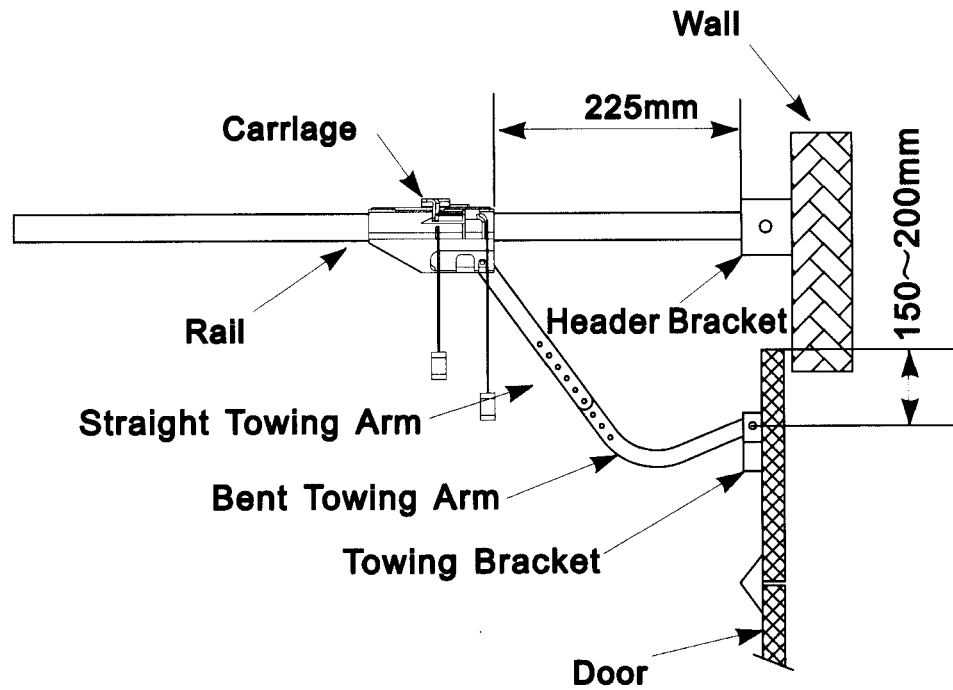
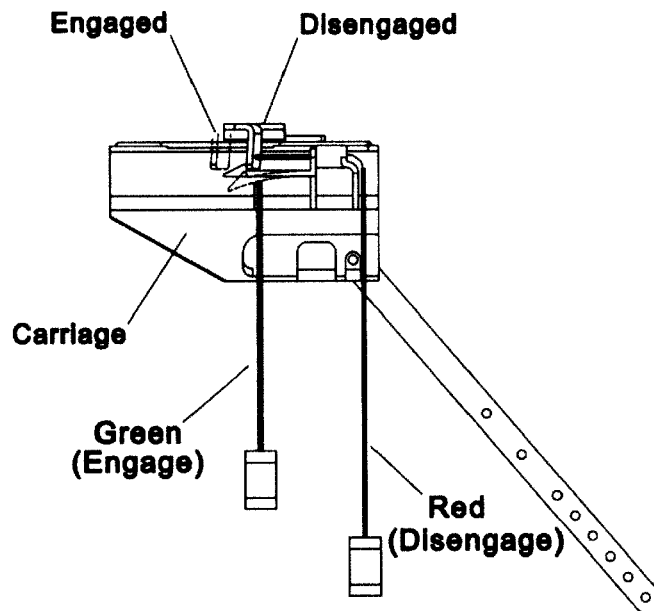

Fig 8
Fig 9
- With the Carriage **disengaged** (Fig.9) and positioned approx 225mm from the front wall, attach the Straight Towing Arm (Fig 8) to the Carriage using the short clevis pin.
- Attach the Bent Towing Arm to the Towing Bracket (use the end of the arm which has only one hole) using the 8mm screw and 2 nuts. (Fig 8)
- Unfurl the Green Engage and Red Disengage Cords and cut them to length so that their ends hang approximately 1800mm above the garage floor. (Fig.9)
- Pull down on the Red Coloured Disengage Cord (Fig.9) to disengage the AGDO from the Garage door.
- Pull down on the Green Coloured Engage Cord. (Fig 9)